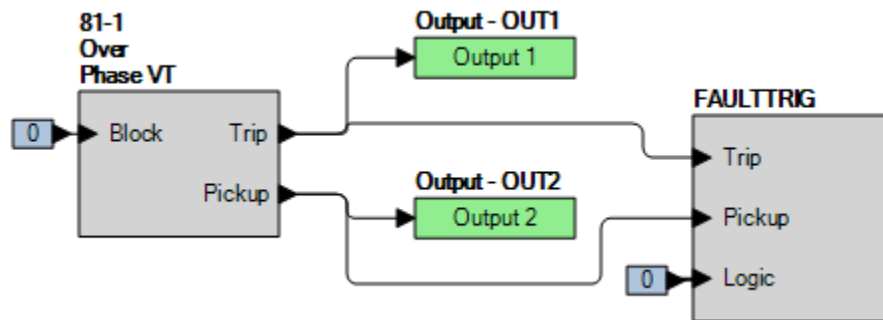

Figure 71-1. BESTlogicPi+ Settings (Overfrequency)
Step 2: Use BESTCOMSPi+ to configure the BESTlogicPi+ programmable logic shown in Figure 71-1.
Step 4: Prepare to monitor the 81-1 function operation. Operation can be verified by monitoring OUT2 (see Figure 71-1).